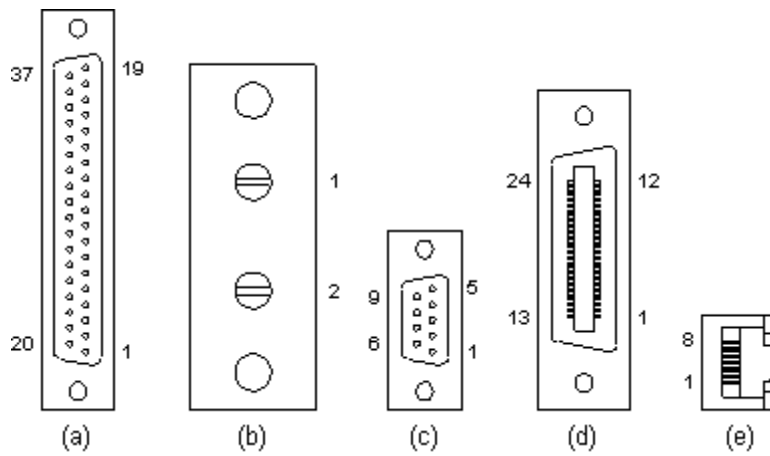

Figure 1.1 Connector (a) JS1, remote interface; (b) JS2, remote sense; (c) JS3, RS232; (d) JS4, IEEE-488; and (e) JS5, Ethernet (viewed from female end)
**User interface connectors, see figure 1.1 and Tables 1.4, 1.5, 1.6, 1.7, and 1.8 for details:**